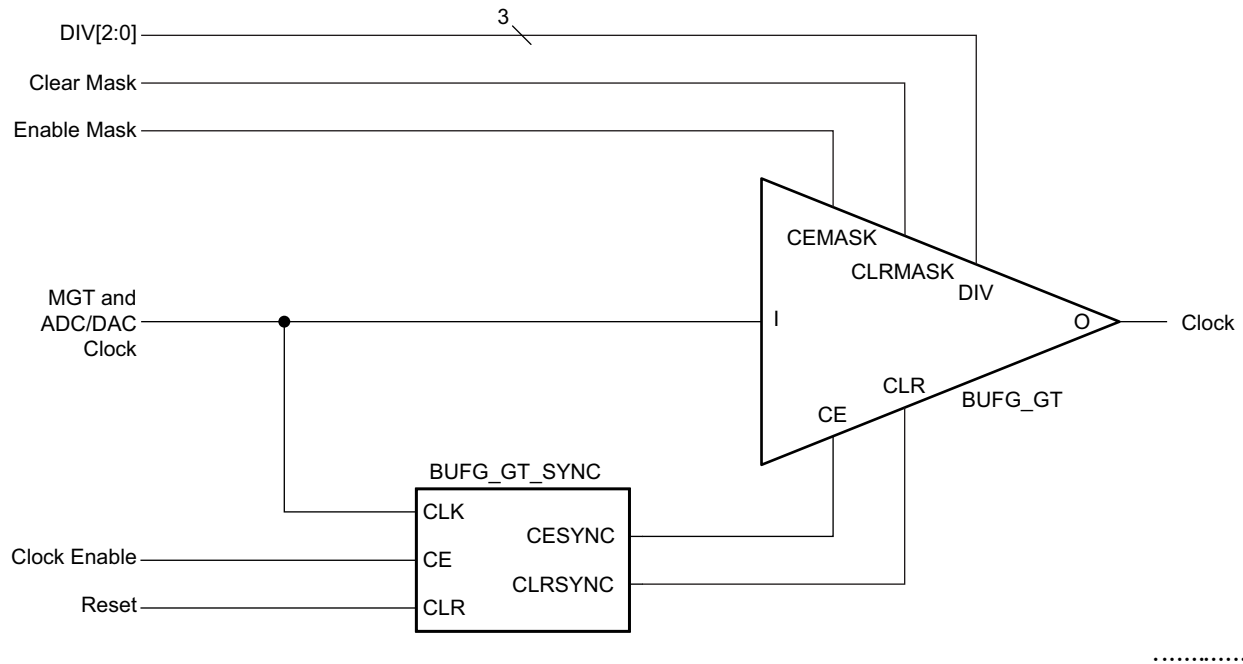

Figure 2-21: BUF_GT Primitive
The BUFG_GTs are driven by the gigabit transceivers (GTs) and the ADC/DAC blocks in the RFSoc devices. BUFG_GTs provide the only means for those blocks to drive the clock routing resources. Only GTs, ADCs, and DACs can drive BUFG_GTs. BUFG_GT (Figure 2-21) is a clock buffer with one clock input (I), one clock output (O), one clear input (CLR) with CLR mask input (CLRMASK), a clock enable (CE) input with a CE mask input (CEMASK) and a 3-bit divide (DIV[2:0]) input. BUFG_GT_SYNC is the synchronizer circuit for the BUFG_GTs and is shown here explicitly. The BUFG_GT_SYNC primitive is automatically inserted by the Vivado tools, if not present in the design. This buffer can directly drive the routing and distribution resources and is a clock buffer with a single gated input and a reset. When CE is deasserted (Low) the output stops at its current state, High or Low. When CE is High, the I input is transferred to the O output. Both edges of CE and the deassertion of CLR are automatically synchronized to the clock for glitch-free operation. The Vivado tools do not support timing for the CE pin, therefore, a deterministic latency cannot be achieved. CLR is an asynchronous reset assertion and synchronous reset deassertion to the BUFG_GTs. The synchronizers have two stages, but the CLR pin does not have a setup/hold timing arc assigned. Therefore, the latency is not deterministic. BUFG_GTs can also divide the input clock by 1 to 8. The DIV[2:0] value is the actual divide minus 1 (i.e., 3'b000 corresponds to 1 while 3'b111 corresponds to 8). The divide value (DIV inputs), CEMASK, and CLRMASK must be changed while the buffer is held in reset. The input clock is allowed to change while CE is deasserted or reset is asserted. However, there is a minimum deassertion/assertion time for those control signals.